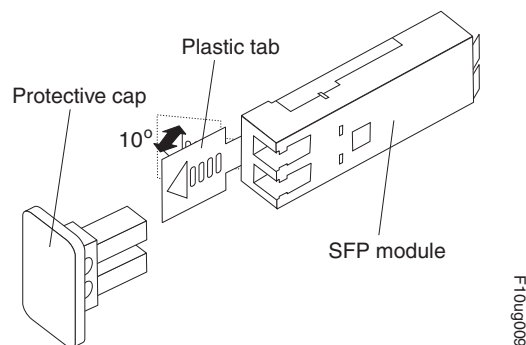

Figure 105. Unlocking the SFP module latch - plastic variety
- For SFP modules that contain plastic tabs, unlock the SFP module latch by pulling the plastic tab outward 10°, as shown in Figure 105.